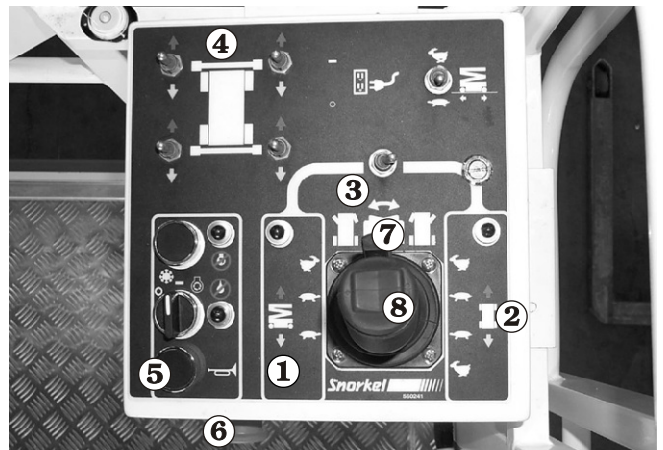

Figure 7.28 - Platform Controls
Check all of the lift **1**, drive **2**, steer **3**, and stabiliser (**4**, if present) functions from the platform control box to see that they cause the SR to move the way it should (see Figure 7.28). (for correct operating procedures see the "Operation" chapter 8).
Press the operator horn **5** (see Figure 7.28) to see that it works.
Pay particular attention to the **Emergency Stop switch ⑥** to see that it turns the engine off when struck (see Figure 7.28).
Pay particular attention to the **Safety Control ⑦** to see that it deactivates the **Joystick Controller ⑧** when the safety control ⑦ is released (see Figure 7.28).